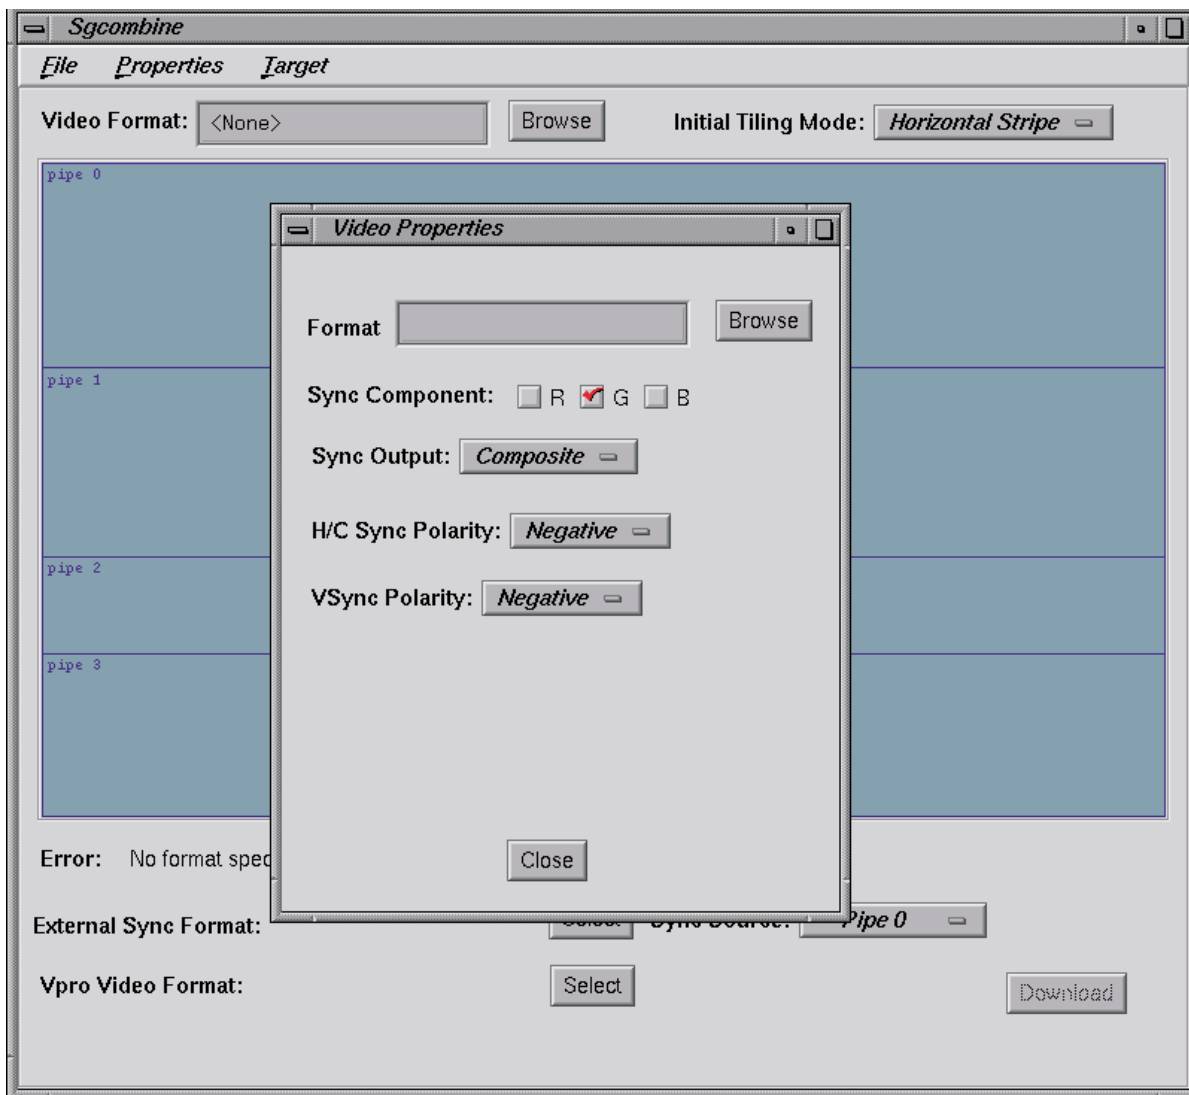

Figure 3-5 Video Properties Window
6. From the **Sgcombine** main window, select **Properties**, and then select **Video Properties**, to see the **Video Properties** window shown in Figure 3-5. From this window, you can configure the output video so that it is compatible with your video monitor, as follows: